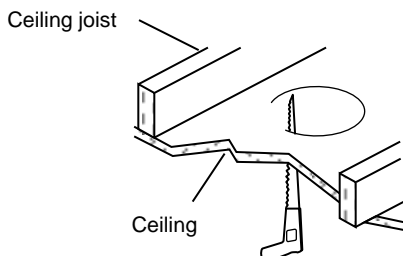

Fig. 1
2. Using a keyhole saw make a 6 1/4" hole in the ceiling surface. (Fig. 1) **(Note:** Be sure not to make the hole any larger than specified by the template. An oversized hole may not allow for proper installation.)